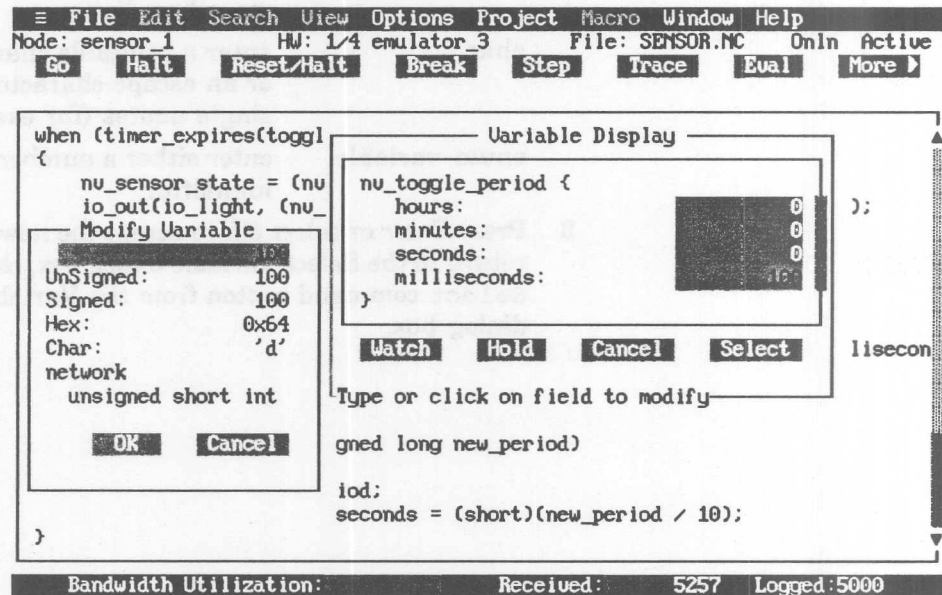

Figure 8-6. Modify Variable Dialog Box
- 1 Select by clicking on the displayed value, or type into this field to open the Modify Variable dialog box (see figure 8-6). (The dialog box contains type information and alternate display types, for example: decimal, hex. An enum type variable is displayed with the appropriate enum identifier, if one exists.)